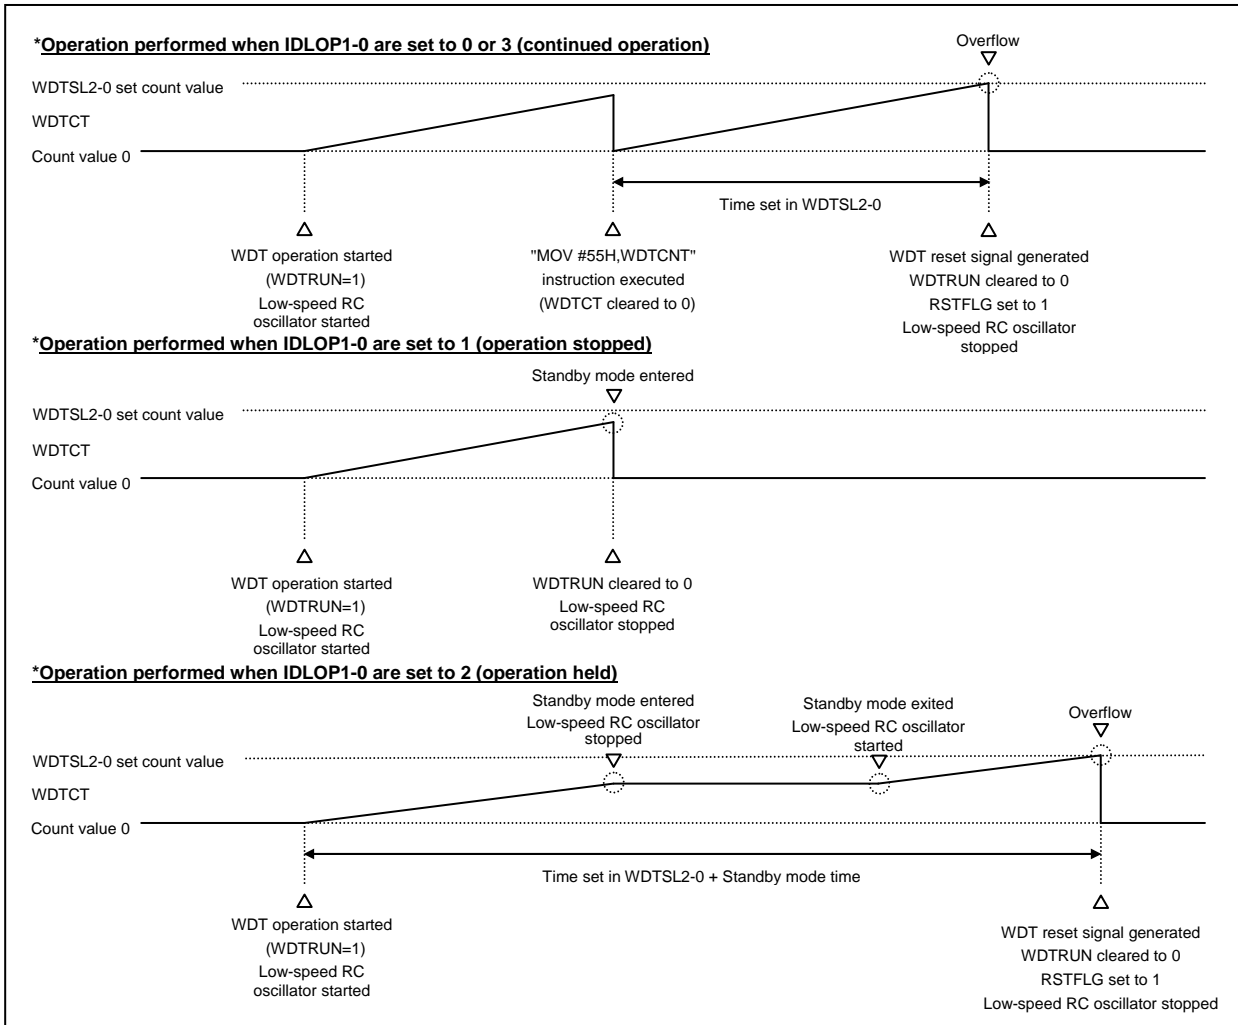

Figure 4.5.5 Sample Watchdog Timer Operation Waveforms
\* See Figure 4.5.5 for details on the WDT operation.
- \* See Figure 4.5.5 for details of the WDT operating modes.